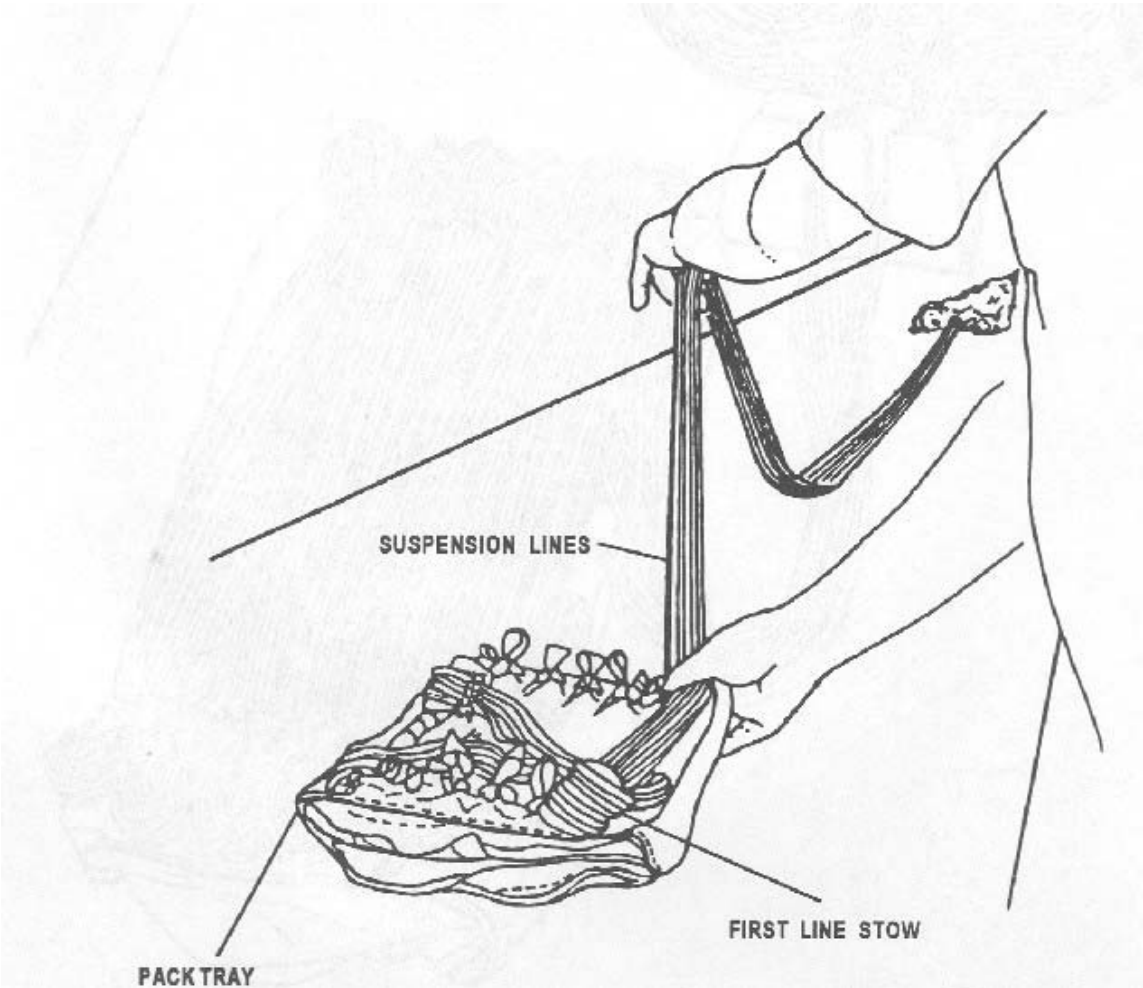

Figure 3-10
- d. Form and secure the second suspension line stow in the lower left corner of the pack. (See Figure 3-10)